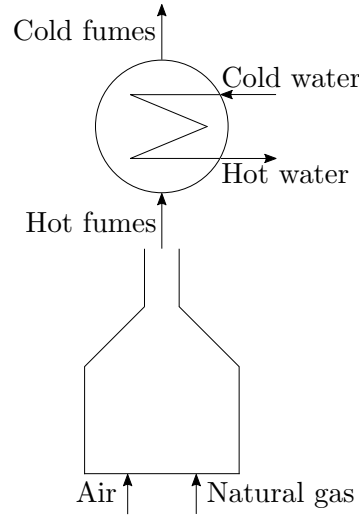

Figure 2: Burner and heat exchanger
On Figure 2 a heat exchanger uses the hot exhausts from the burner to heat water. As they go through the heat exchanger, the hot fumes transfer energy to the water which heats and vaporizes into water vapor (steam). We assume that the temperature of the fumes decrease by 600°C . The pressure remains at 1 atm. Since the composition of the ‘cold’ fumes is the same as the hot fumes’, (7) can be reused, for the temperature $T_{HF} - 600$.